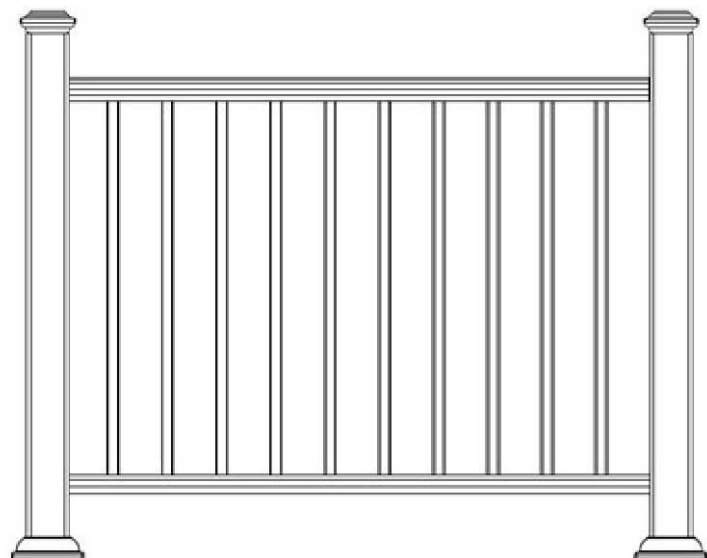

FIGURE 13
2. Figure 13 will be the complete railing system.